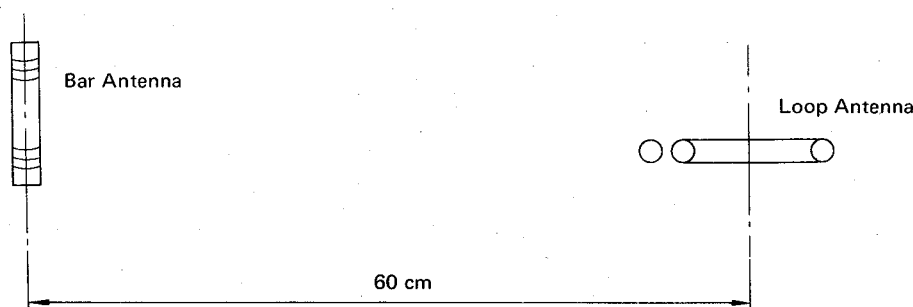

Figure 7
- 2) Standard loop antenna is installed on AM signal generator and MW coils of loop and bar antennas should be set in normal conditions. (Refer to Fig. 7)
- 2) Standard loop antenna is installed on AM signal generator and LW coils of loop and bar antennas should be set in normal conditions. (Refer to Fig. 7)